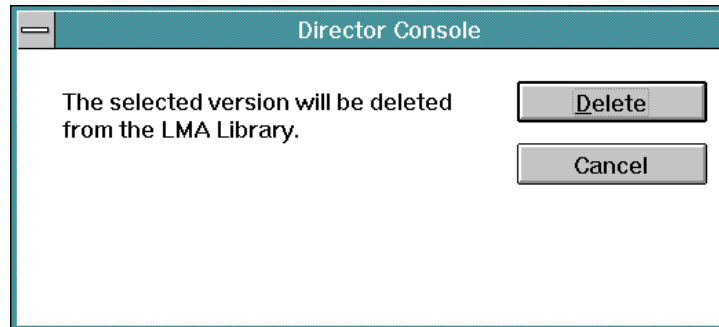

Figure 163. Confirm LMA Deletion Message Box
- At the *LMA Versions* dialog box, select (highlight) the LMA version to delete and click the *Delete* button. The message box shown in Figure 163 appears.